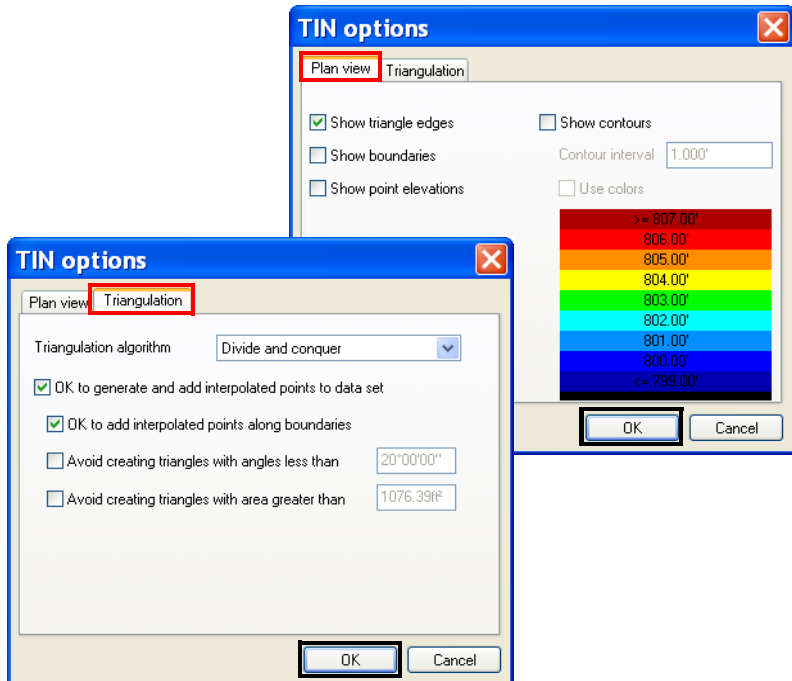

Figure 5-23. Set Plan View and Triangulation Options
The *TIN options* dialog box (Figure 5-23 on page 5-23) sets plan view parameters and TIN computation parameters.
The *TIN options* dialog box displays (Figure 5-23 on page 5-23).
2. On the *Plan view* tab, enable/disable the desired parameters (Figure 5-23 on page 5-23).
3. Click the *Triangulation* tab and enable/disable the desired parameters (Figure 5-23 on page 5-23).